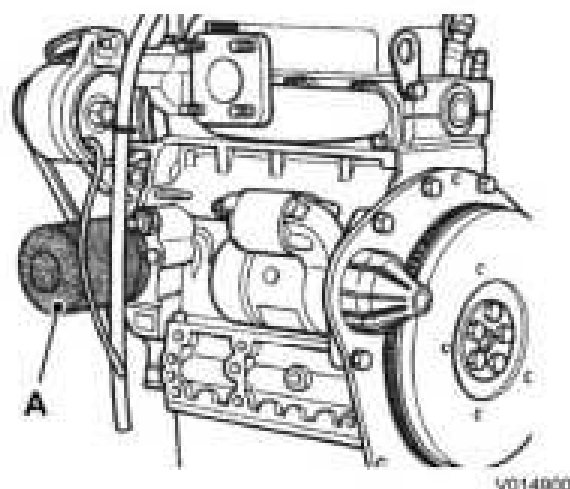
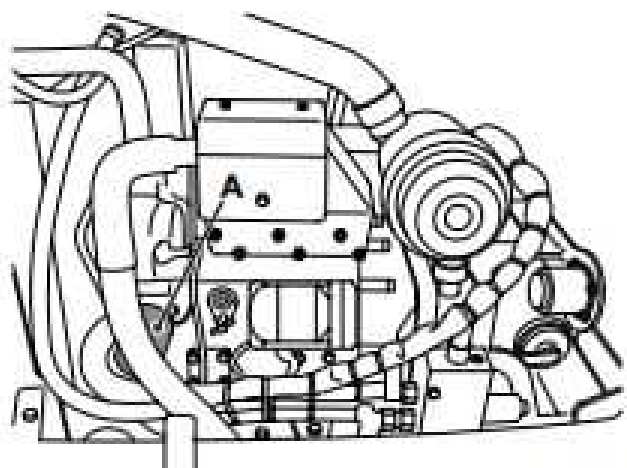
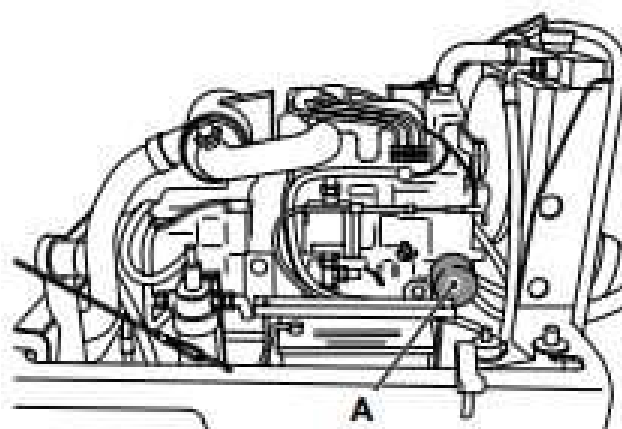

Fig 18. VMT160 Tier 2
Fig 19. VMT160 Tier 4
Fig 20. VMT260 Tier 4
- 1 Place a container of suitable size under the filter canister A. ⇒ Fig 18. \(D 3-32\). ⇒ Fig 19. \(D 3-32\). ⇒ Fig 20. \(D 3-32\).